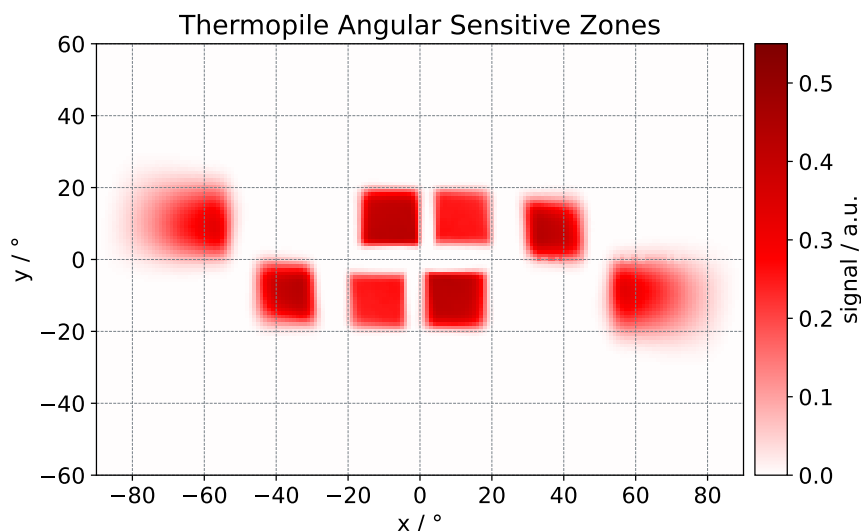

Figure 5: The angular sensitive zones of the DigiPile™
The sensitive zones for the DigiPile™ can be seen in Figure 5 in an angular plot. The central sensitive zone spans in horizontal-direction (X) 40° and in vertical-direction (Y) 40°. This zone can be mainly used for Approaching and Presence detection. There is no change between zones required to generate a measurable signal.